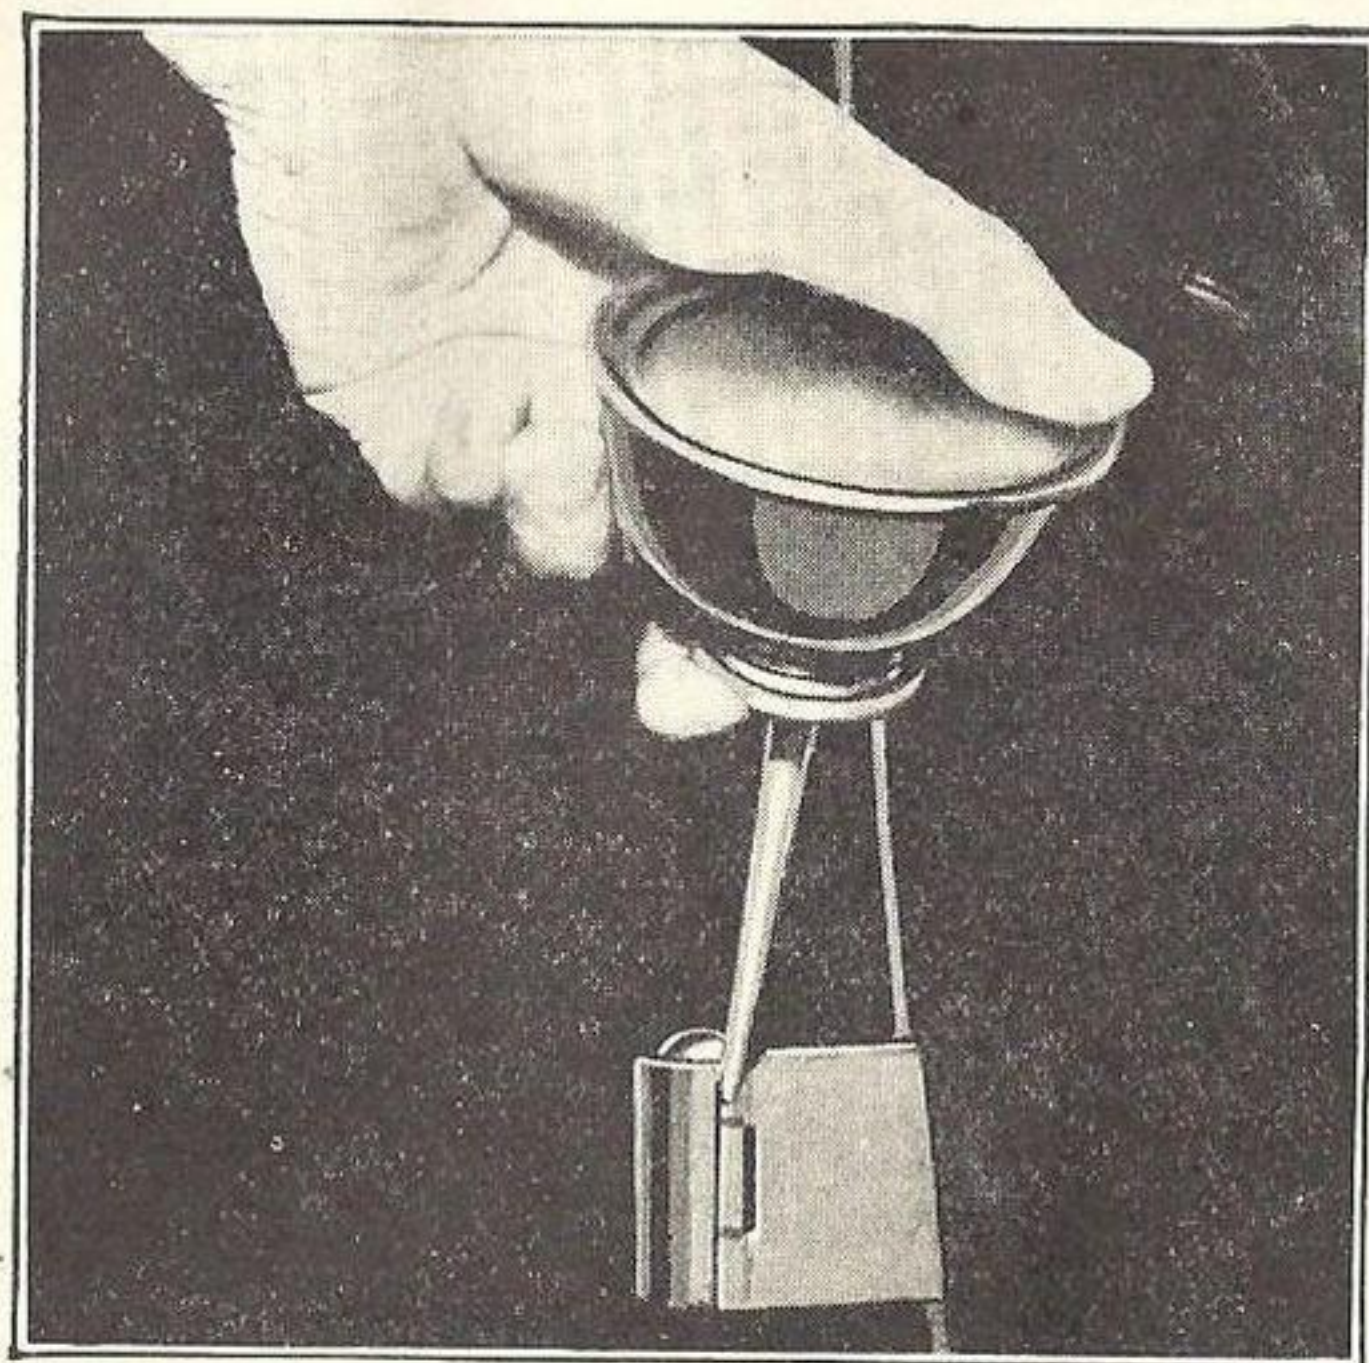

Fig. 13
1. Door hinge pins. Refer to Fig. 13.